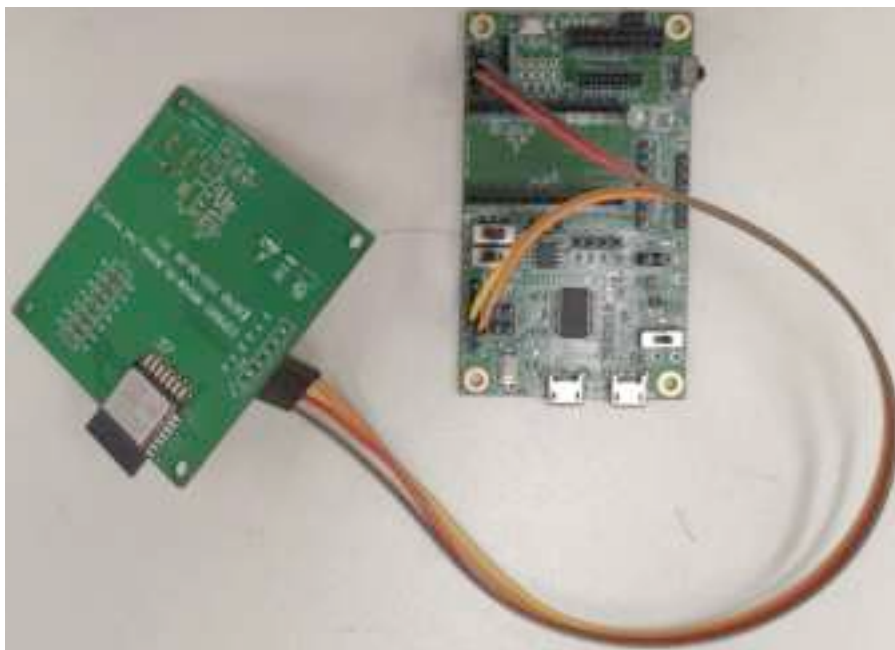

Figure 2: Hardware Connection
1. Solder the ESP8684-WROOM-06C module to the RF testing board as shown in Figure 2.